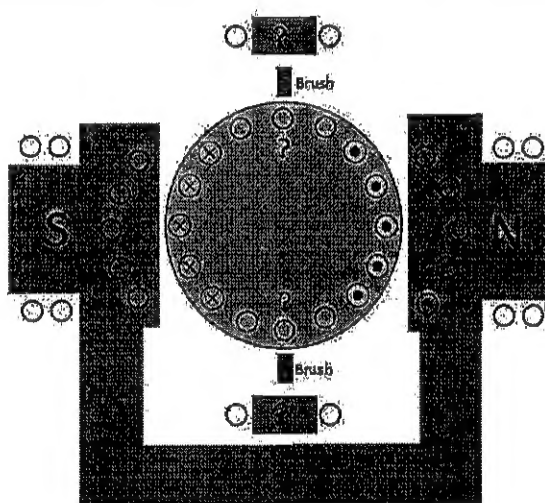

Figure 1
(a) Figure 1 shows a round rotor DC Generator cross section diagram. Stator poles and rotor conductor current direction are shown in the diagram. You are required to re-draw the diagram in the answer booklet and find the following:
- Name the four winding used in the Figure 1 diagram. [2 Marks]
- Draw the GNA and MNA axis for Figure 1 diagram. [3 Marks]